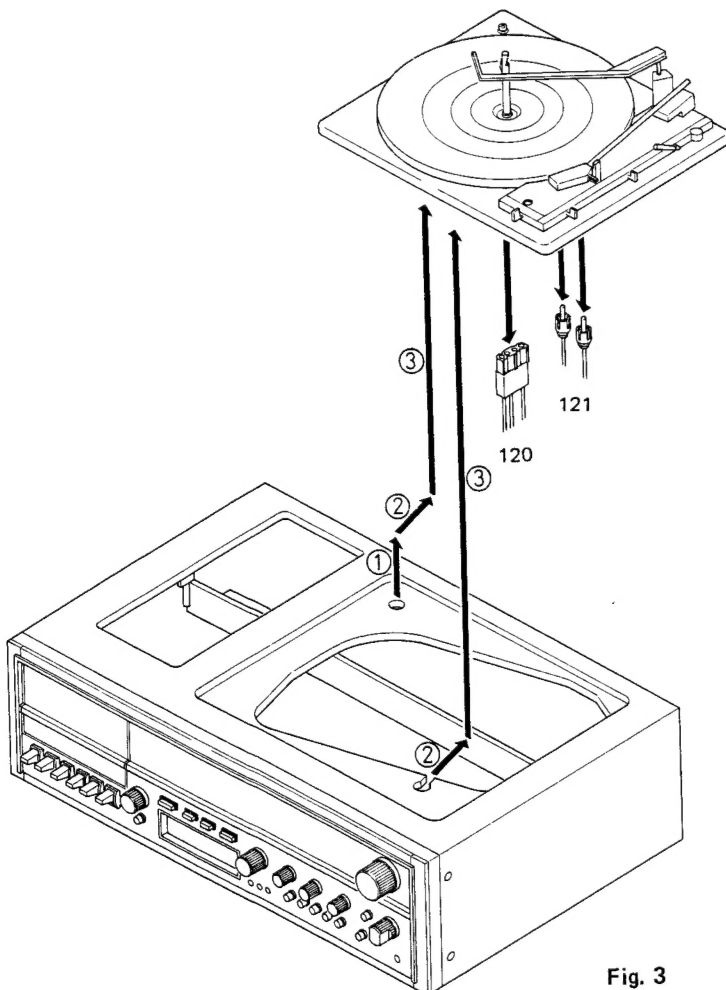

Fig. 3
3. Remove the turntable in this way: raise it in the direction of arrow (1), slide along arrow (2), lift in the direction of arrow (3), and take out RCA pin (121), output plug and power socket (120) from the turntable, then the turntable can be drawn out free. (See Fig. 3.)